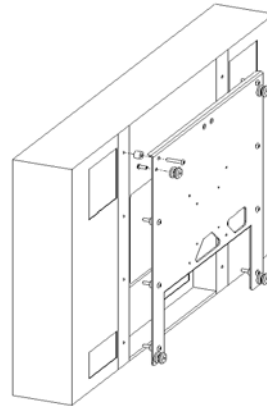

Figure 4
2. Place Nylon spacers on mounting holes and align hole pattern on brackets with pattern on back of Plasma Display (see Figure 4 & Figure 5). Attach bracket using the M5 button head screws.